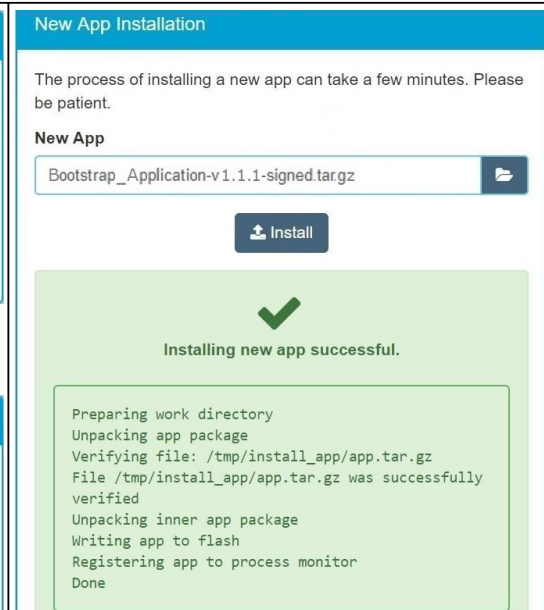

Figure 47
4. Make sure that 'Installing new app successful' is shown; see Figure 47.